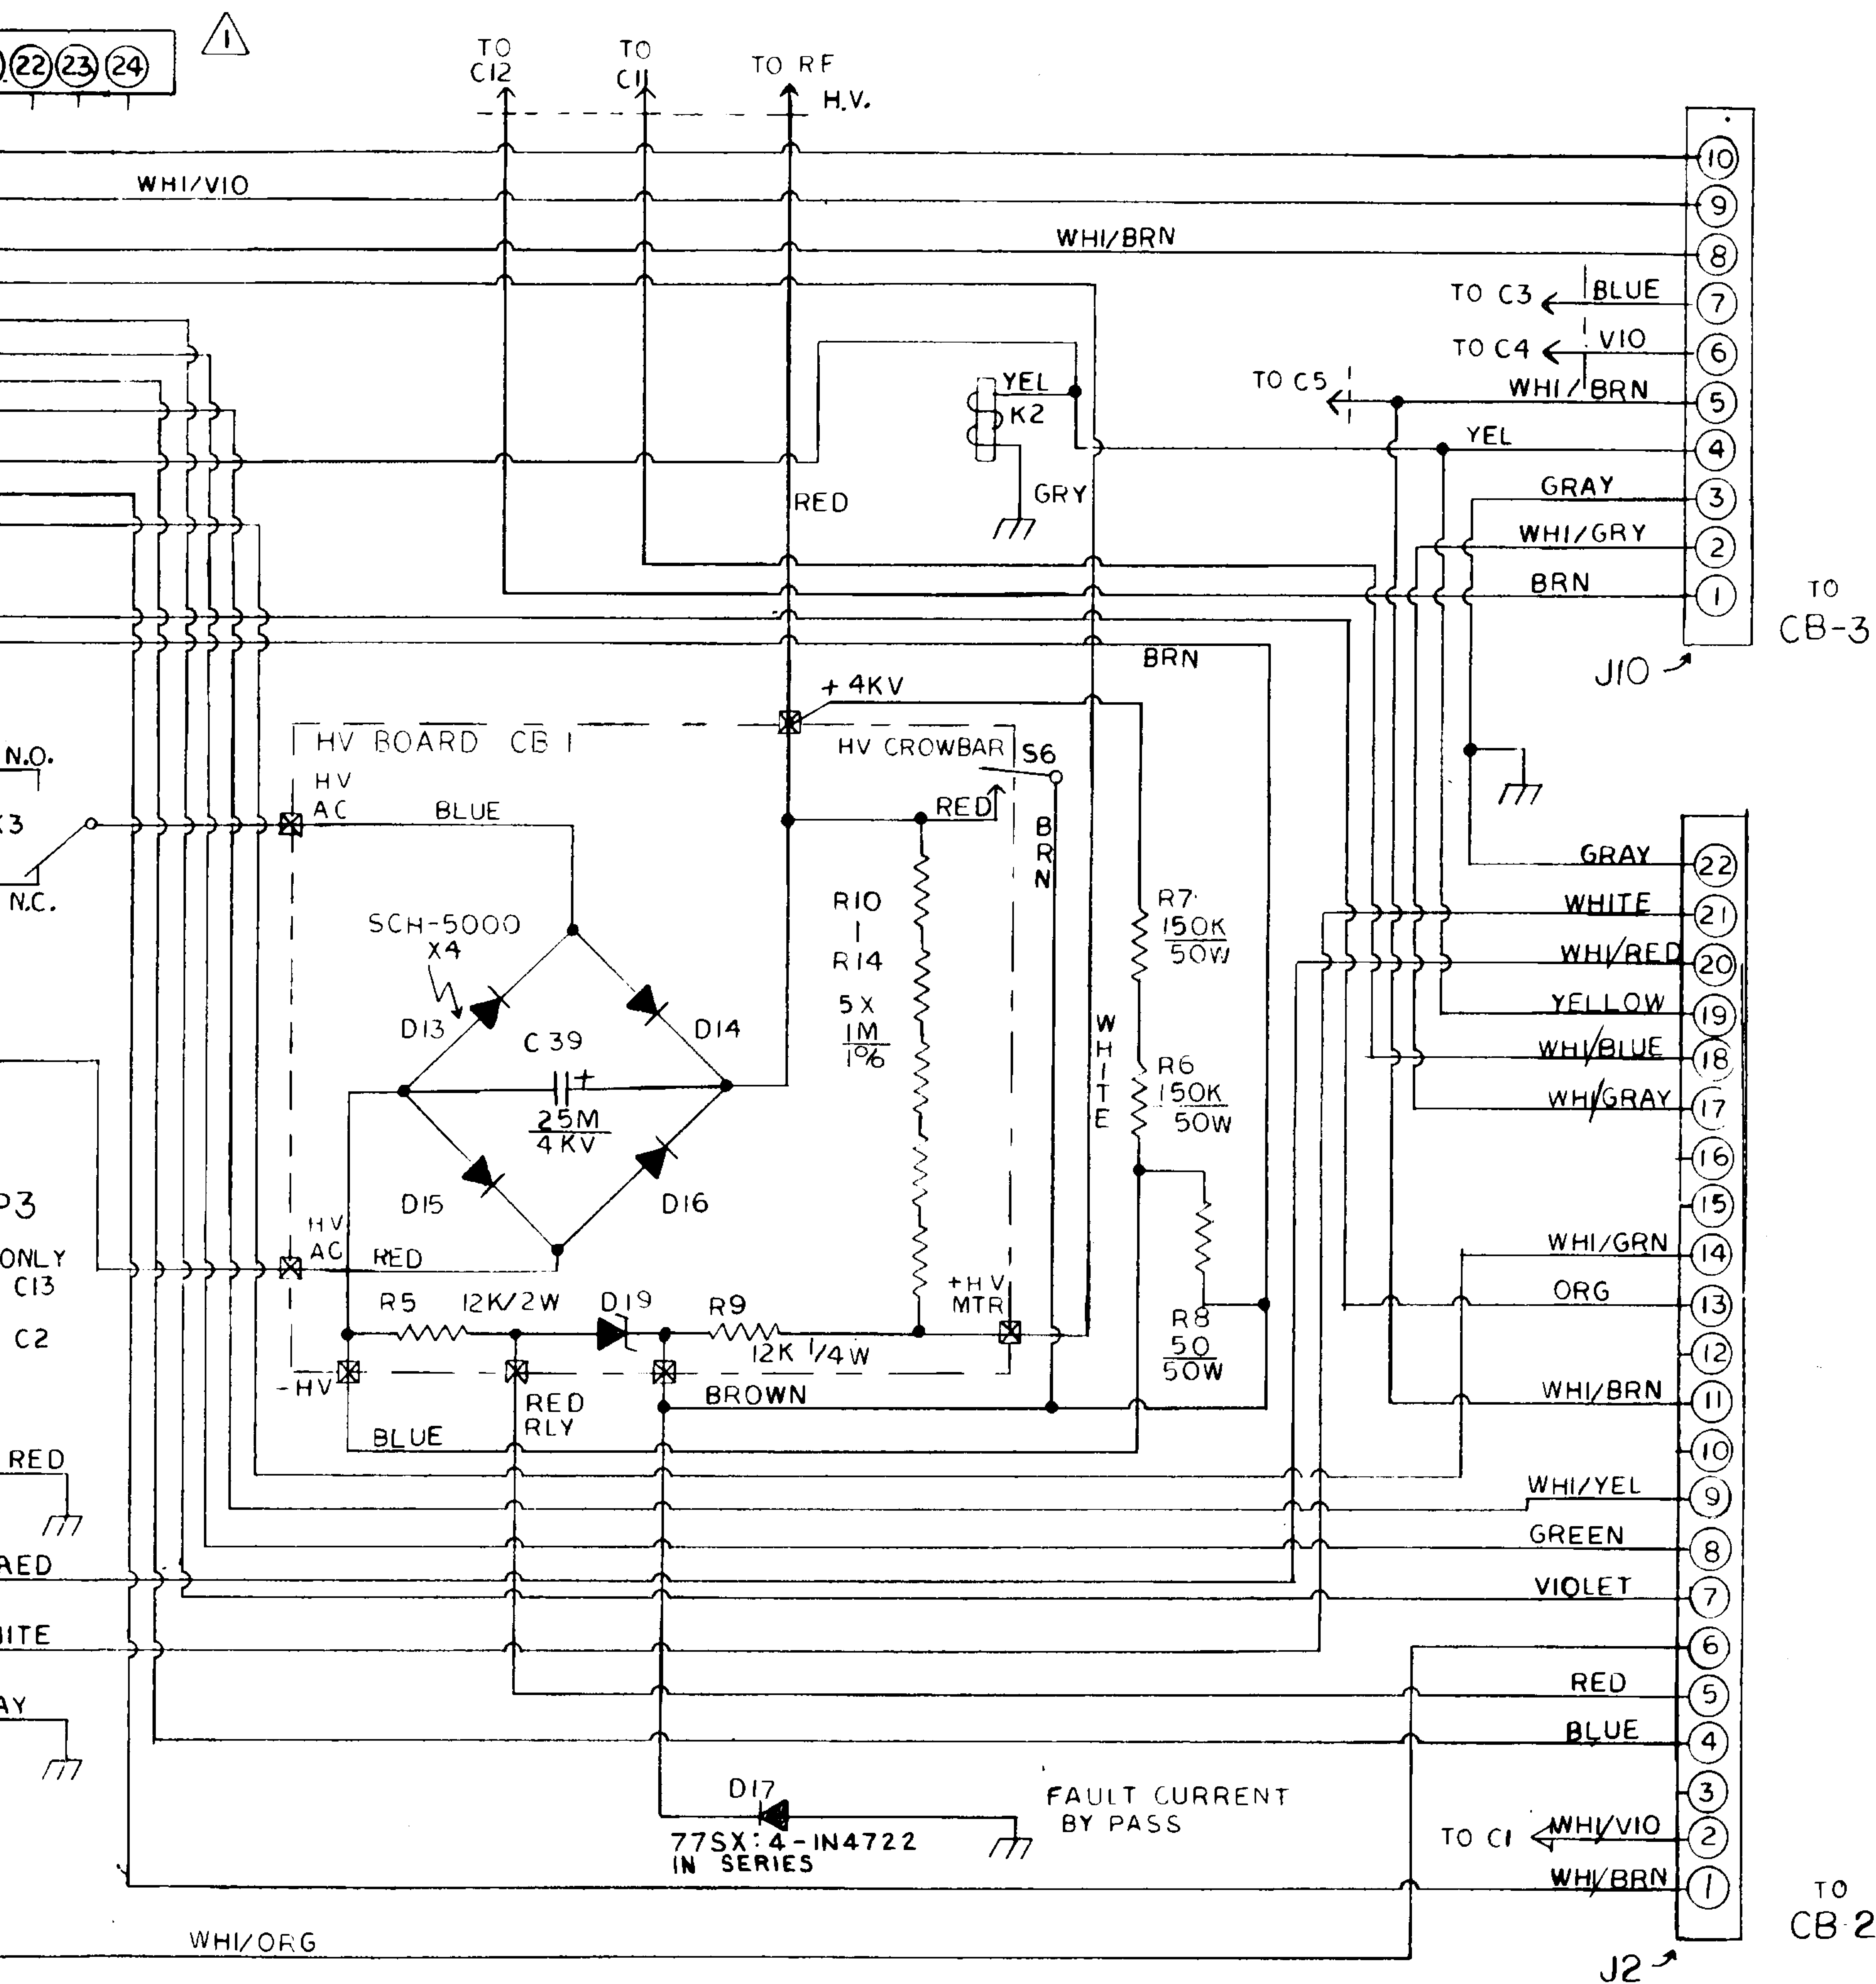

FIG 19: ALPHA 77D & 77S SCHEMATIC - POWER SUPPLY & MAIN CHASSIS
2. Power Supply and Control: (Refer to Figs. 19 & 20) Main AC power relay K1 operates off rectified AC line voltage, controlled by push button MODE switch S5 and cover interlock S9. Step-start resistors R1 and R2 limit the initial current inrush at turn-on to 12 amperes maximum; as HV filter capacitor C reaches full charge, all operating voltages approach normal and step-start relay K2 closes to short out R1 and R2. In the event of a fault which prevents K2 from closing, step-start fuse F3 protects R1 and R2 from damage. (F3 is located on the main chassis immediately behind the power transformer and to the left of K3.)